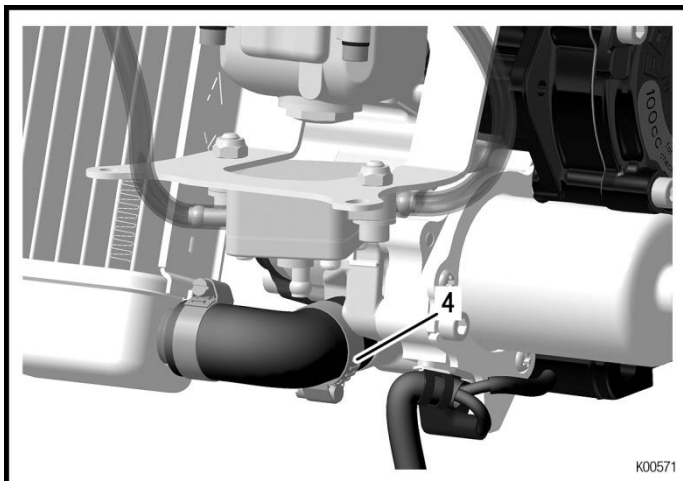

Fig. 11
- ➔ Attach the pre-assembled lower coolant hose to the engine using 1 hose clamp (Pos. 4), see Fig. 11.